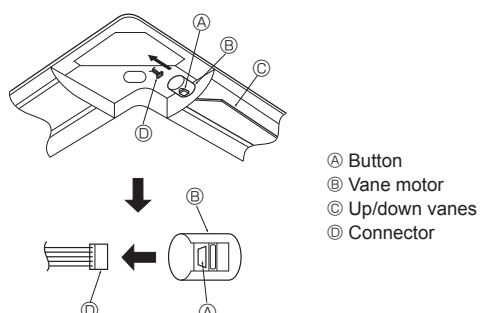

Fig. 5-11
- Take the lead wires CN4Y (white) and CN6Y (red) of the i-see sensor corner panel ⑦ from the side of the electrical box on the unit and make sure to connect them to the connector of the controller board.
- Lead wires of the i-see sensor corner panel ⑦ should be fixed at the rib of the grille with the fastener ④ so that there is no slack.
- Lead wires should be held together with the lead wires of the unit and fixed with 2 of the fastener ④ so that there is no slack.
- The i-see sensor corner panel should be fixed onto the grille ① with screw ⑥.
5.7. Locking the up/down airflow direction (Fig. 5-11)